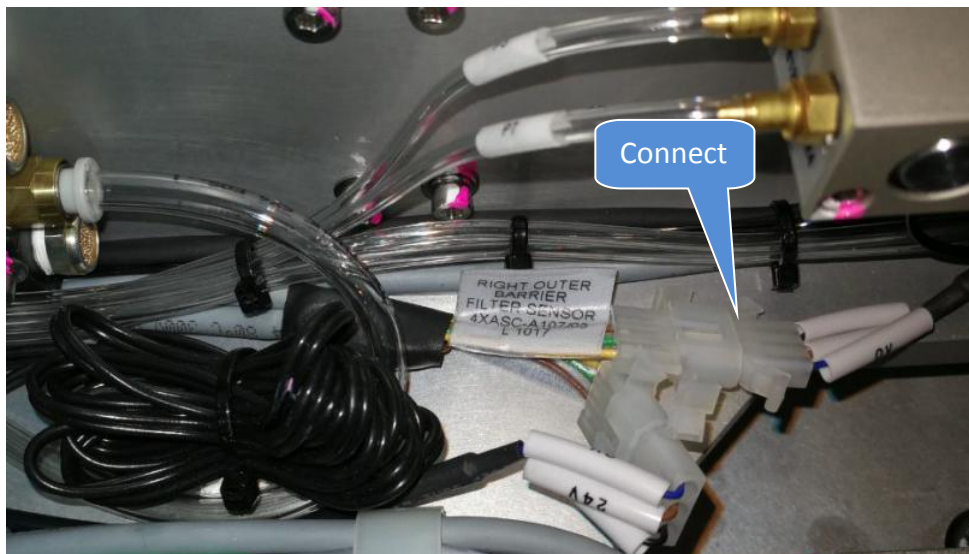

Figure 10 Sensor Amplifier Cable Connection
12. Connect Sensor Amplifier End Connector to Cable where label with “Right Outer Barrier Filter Sensor” as Figure 10